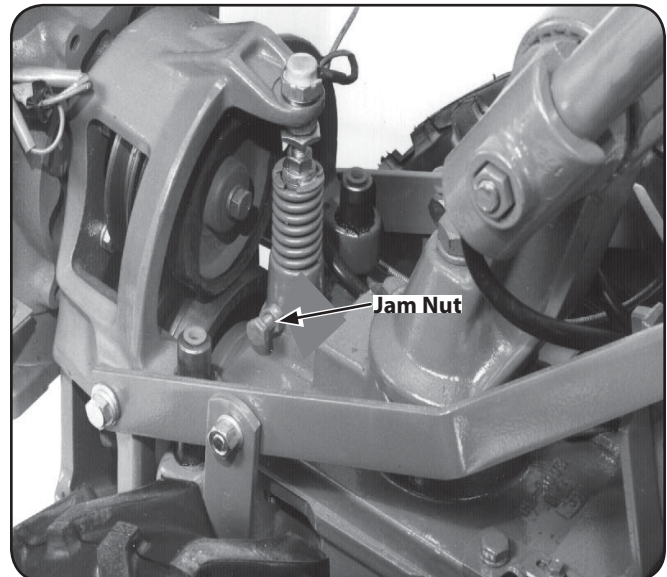

Figure 6-2
- The jam nut is located on the left side of the neutral plunger. If loose, immobilize bolt head with one wrench and use another wrench to tighten the nut. See Fig. 6-2.